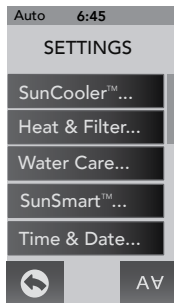

Figure 12.8a
From the Settings Menu, tap **SunSmart™...** to enter the programming options, Figures 12.8a and 12.8b. Make sure that you have downloaded the Wi-Fi App for this setup.
1. From the “Settings” menu, tap **SunSmart™ ...** (Figure 12.8a) to enter the menu.